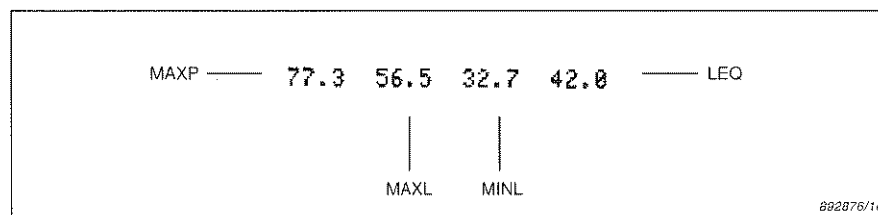

Fig. 3.6. Print-out in Format Number 5
- 5 : The MAXP, MAXL, MINL and  $L_{eq}$  results (see Fig. 3.6).